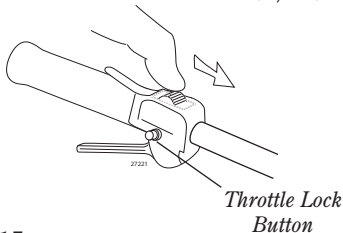

Figure 15
1. Slide the ignition switch to the "ON" position. See Figure 15.
- c. While depressing the throttle lock button, release the throttle lever. See Figure 15.